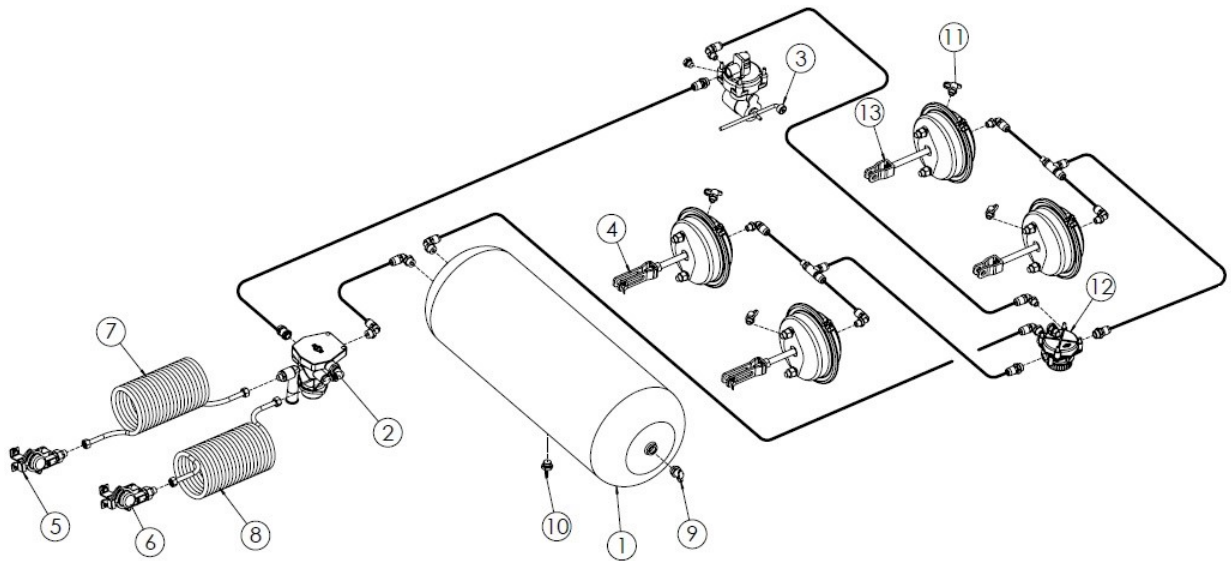

Figure 10 The 2-Line pneumatic braking system with ALB
- two-line pneumatic system with ALB valve (Figure 10)